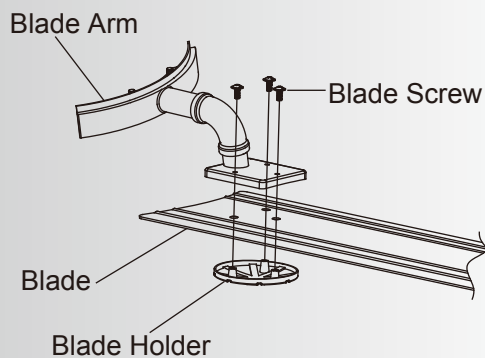

Fig. 16
Step 1. Position the blade over the blade holder with three threaded posts showing. Make sure the bottom edge of the blade is fully seated against the blade holder. Attach the blade arm to the blade and blade holder using the three blade screws. Do not tighten blade screws until all three have been inserted. Then, tighten each blade screws securely. Repeat the procedure for all remaining blades. (Fig.16)